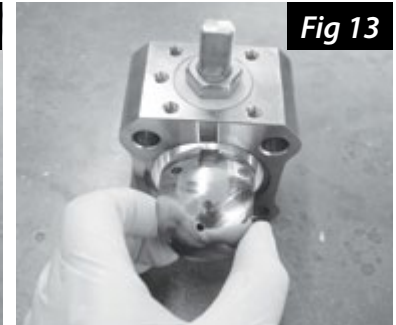

Fig 13
8. If you have not already done so, rotate the valve stem and ball to the "closed" position to remove the ball. Gently push the ball to remove it from the center section of the valve (Fig 13). Place the ball in a safe location for reuse or if replacing the ball it can now be discarded. **Note: If the ball is damaged due to corrosion or some other means, you can purchase a new one by contacting A&N Corporation's sales department.**